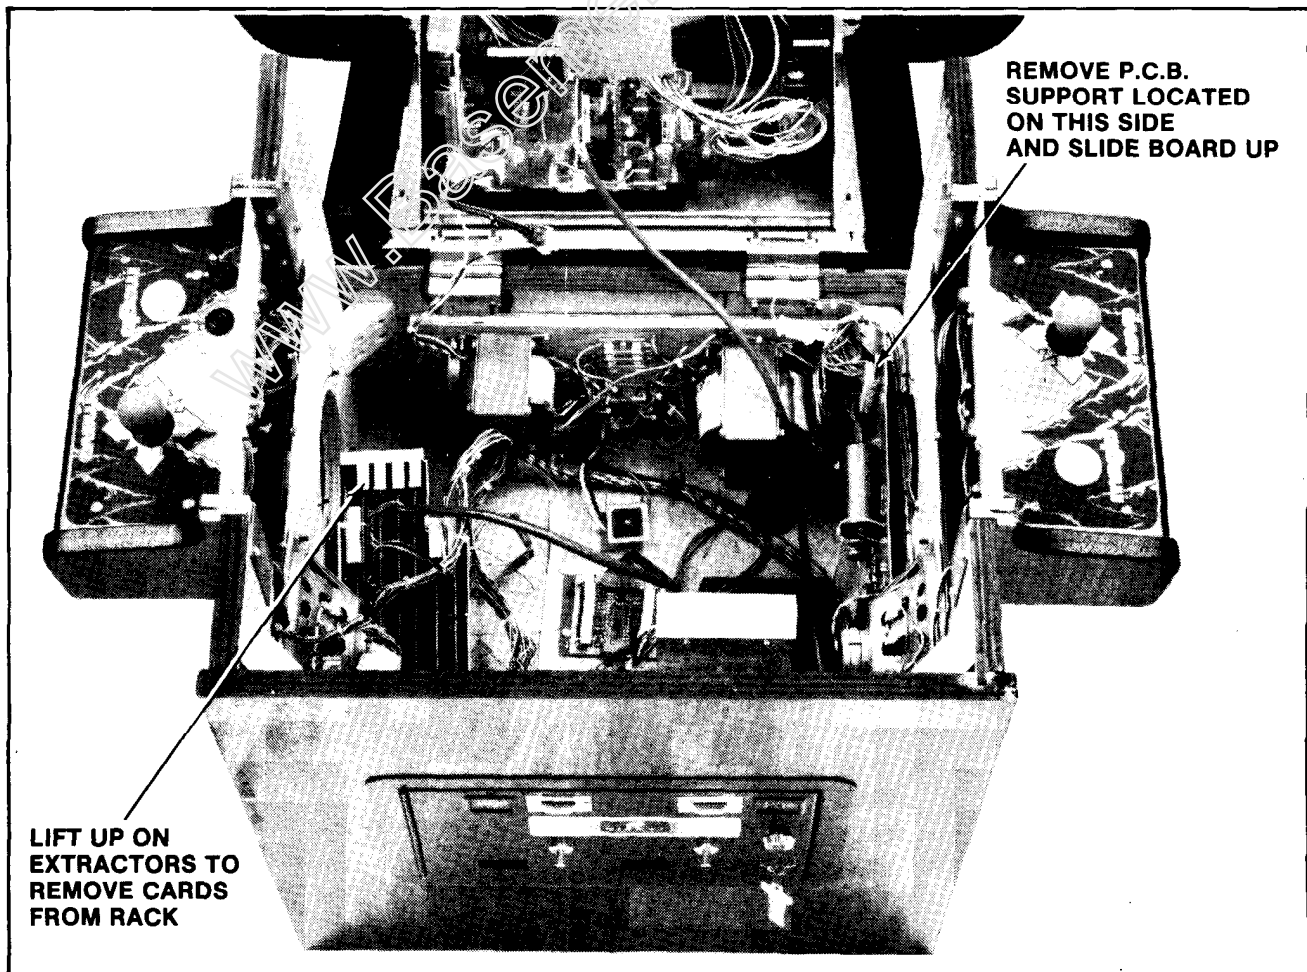

Figure 2-25 Removing Printed Circuit Boards - Cocktail
**2.8.3 COCKTAIL TABLE MODEL:** (See Figure 2-25) (Cont'd)
- ☐ To remove the power supply board. See Figure 2-25.
- ☐ To remove the PCB's from the commercial card rack. See Figure 2-25.